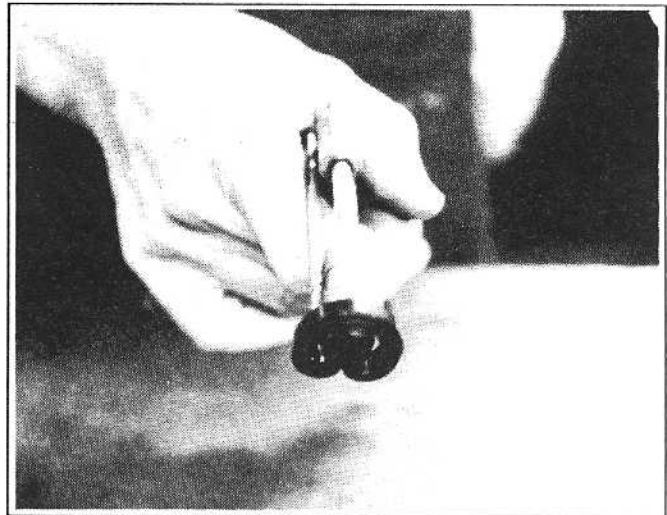

Figure 4-2
- a. Bend seal into a "U" shape (easily done using a seal installation tool as shown in figure 4-2).